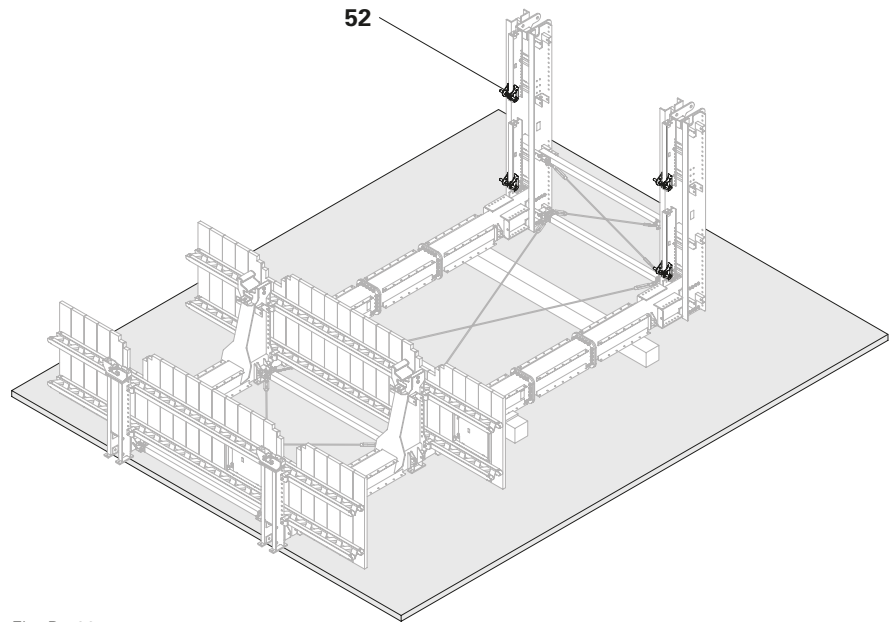

Fig. B5.08
7. Spindle out the clevis load bar (52.1) from the Trolley HTP (52) and slide the Trolley HTP (52) onto the Panel Beam 1110 ACS (50).
8. Tighten the clevis load bar (52.1) until the rollers (52.2) are in contact with the flange of the Panel Beam 1110 ACS (50).
- (Fig. B5.08 – B5.12)